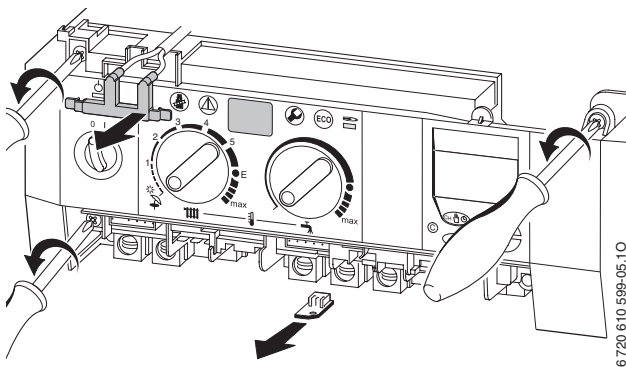

Fig. 60
- ▶ Remove two fixing screws from the control box. Refer to fig. 60.